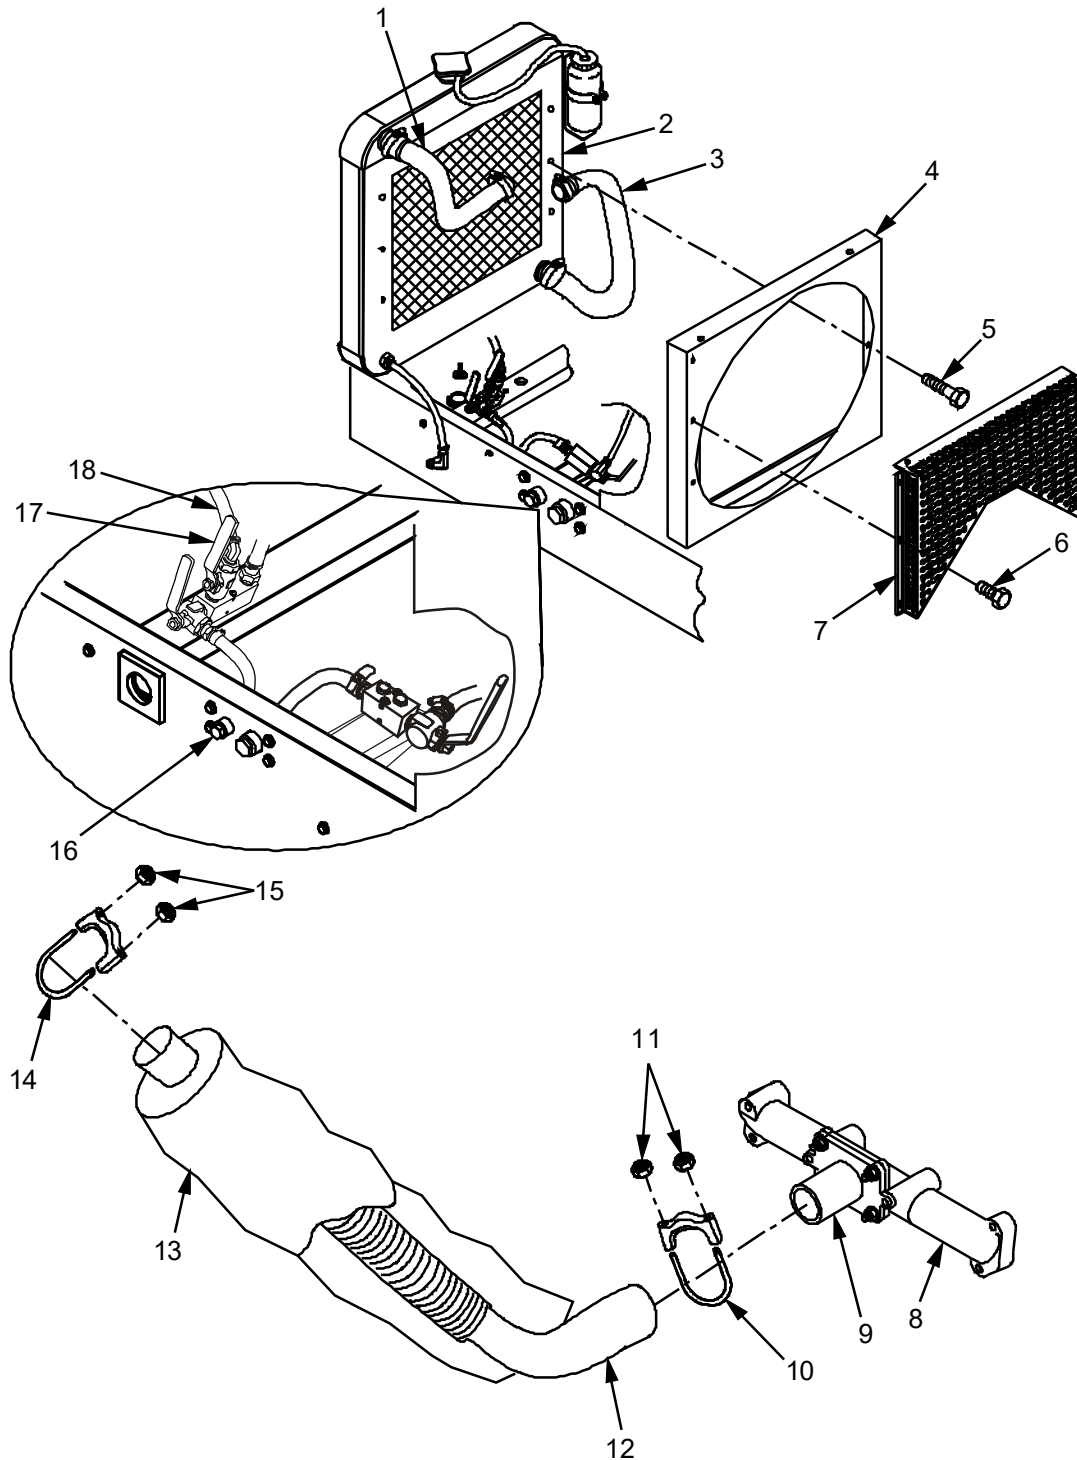

Figure 5. Radiator and Exhaust Manifold Connections - Replace.
1. Drain coolant (WP 0070) from Coolant Drain plug (Figure 5, Item 16).
2. Disconnect upper radiator hoses (Figure 5, Item 1) from radiator (Figure 5, Item 2) and water pump (WP 0050).
3. Disconnect lower radiator hose (Figure 5, Item 3) from engine and radiator (Figure 5, Item 2) (WP 0050).
4. Remove and retain six bolts (Figure 5, Item 6) that secure outer fan blade cover (Figure 5, Item 7). Remove fan blade cover (Figure 5, Item 7) and set aside.
5. Remove and retain six bolts (Figure 5, Item 5) that secure inner fan blade cover (Figure 5, Item 4). Remove fan blade cover (Figure 5, Item 4) and slide back over fan blades.
8. Disconnect engine drain line (Figure 5, Item 18) from Coolant Drain plug connection (Figure 5, Item 16) on Genset.
If necessary, loosen thermal insulation (Figure 5, Item 13) around exhaust flex pipe (Figure 5, Item 12).
1. Loosen two nuts (Figure 5, Item 11) from clamp/U-bolt (Figure 5, Item 10) and slide exhaust flex pipe (Figure 5, Item 12) from exhaust pipe "T" (Figure 5, Item 9) on exhaust manifold (Figure 5, Item 8) (WP 0055).
2. Loosen two nuts (Figure 5, Item 15) from clamp/U-bolt (Figure 5, Item 14) and slide exhaust flex pipe (Figure 5, Item 12) from elbow going to muffler (0052).
1. Install inner fan blade cover (Figure 5, Item 4) over water pump pulley.
3. Slide inner fan blade cover (Figure 5, Item 4) over fan blades and secure to radiator using six bolts (Figure 5, Item 5).
5. Install outer fan blade cover (Figure 5, Item 7) and secure using six bolts (Figure 5, Item 6).
6. Ensure overflow tube is secured to fan blade cover (Figure 5, Item 7) with strap ties.
7. Connect upper radiator hoses (Figure 5, Item 1) from radiator (Figure 5, Item 2) to water pump. Refer to procedure in WP 0054.
8. Connect lower radiator hose (Figure 5, Item 3) from engine to radiator (Figure 5, Item 2). Refer to procedure in WP 0050.
9. Connect engine drain line (Figure 5, Item 8) to Coolant Drain plug connection (Figure 5, Item 16) on Genset.
1. Install exhaust flex pipe (Figure 5, Item 12) onto elbow going to muffler. Secure using clamp/U-bolt (Figure 5, Item 14) and two nuts (Figure 5, Item 15).
2. Install exhaust flex pipe (Figure 5, Item 12) onto exhaust pipe "T" (Figure 5, Item 9) on exhaust manifold (Figure 5, Item 8). Secure using clamp/U-bolt (Figure 5, Item 10) and two nuts (Figure 5, Item 11).